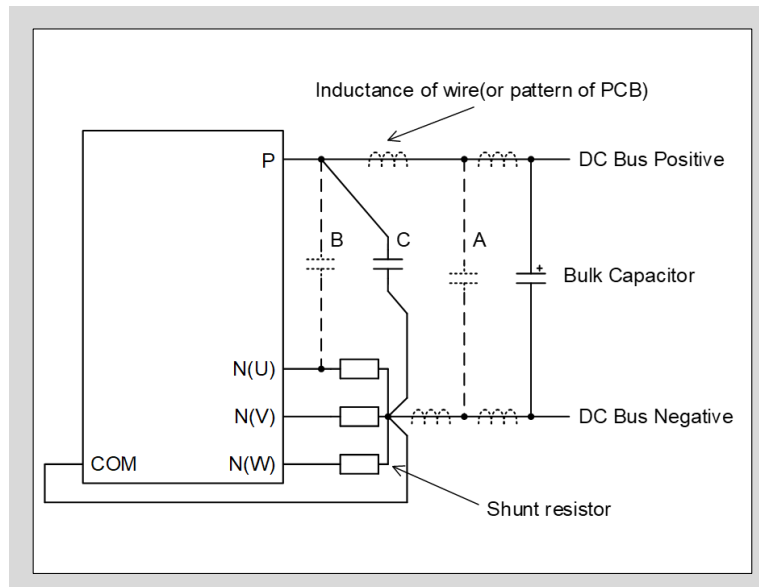

Fig.4-1 Recommended wiring of shunt resistor and snubber capacitor
- Connect external shunt resistors to detect over current (OC) condition and phase currents.
- As shown in the Fig.4-1, snubber capacitors should be connected at the right location to suppress surge voltage effectively.
- Connecting the snubber capacitor at location "C" is recommended. If the snubber capacitor is connected at location "A" as shown in the Fig.4-1, the snubber capacitor cannot suppress the surge voltage effectively because the wiring inductance is not negligible. If the capacitor is connected at the location "B", the charging and discharging current of snubber capacitor will flow through the shunt resistor. This will impact the current detection signal and the OC protection level will be lower than the design value. Although the surge voltage suppression effect when the snubber capacitor is connected at location "B" is greater than that at location "A" or "C", location "C" is recommended considering the impact to the current detection accuracy.